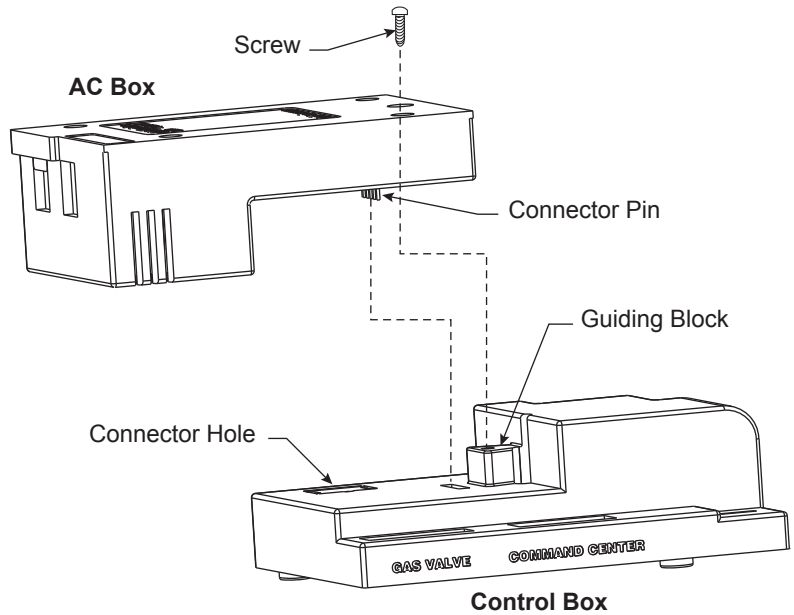

Figure 56 - Connect AC Box to Control Box
6. Align the connector pin on the AC box to the control box and gently push them together using the guiding block as a guide. *Figure 56*
7. Secure the AC box to the control box using screw provided. *Figure 56*